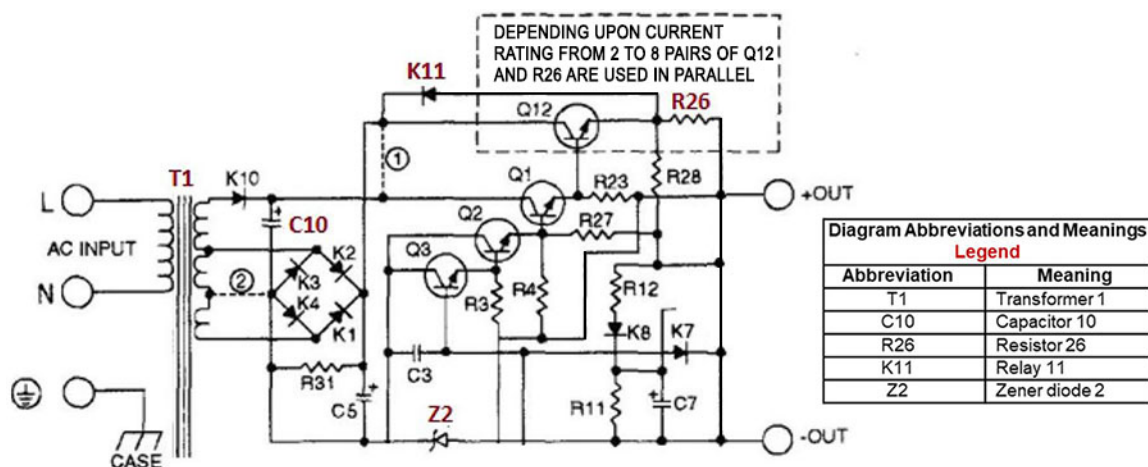

Figure 3-7. Typical diagram.
3. Many diagrams contain legends (fig. 3-7). Legends are used to convey critical information, which is too large to be incorporated into the picture without detracting from the diagram. Some examples are unique part numbers, voltage tolerances, unique diagram symbol definitions, and so forth.
4. Abbreviations are used to shorten words, phrases, or text. Components, cables, and internal circuit components are commonly abbreviated (fig. 3-7).